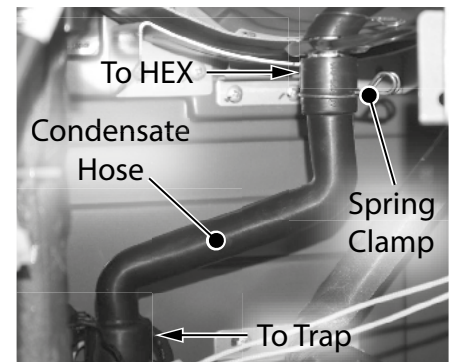

Figure 8 - Disconnect condensate hose
- 21** Disconnect the black hose from the top of the condensate trap and then from the back of the heat exchanger as shown in Figure 8. Compress the spring clamp and pull it down along with the black hose. Place hose aside in a safe place for reinstallation.